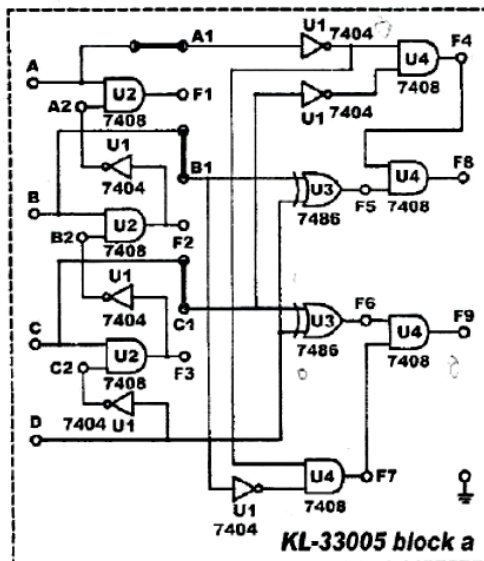

Fig. 2-64
1. Insert connection clips according to Fig. 2-64.